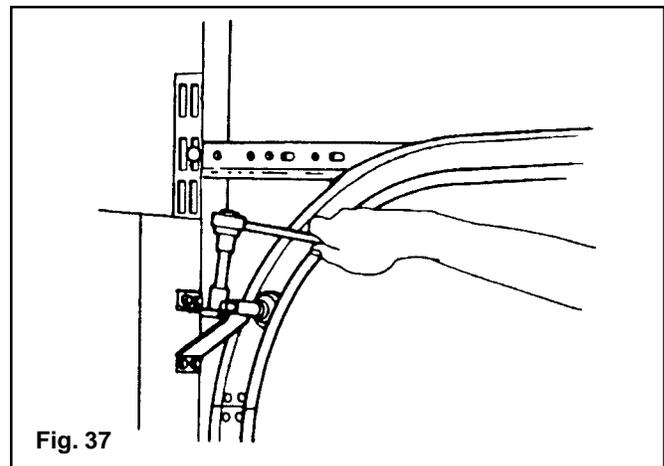

Fig. 37
**Sway braces must be used to prevent tracks from spreading and allowing door to fall. Bolts placed in the end of each track (FIG. 37) must be at least 1" long to prevent the top section from exiting the track.**
**Step 9:** With the track installed, the top door section can now be properly adjusted. With the slide on the top bracket loose, force the top of the door against the stop molding or door jamb. Pull the roller towards you so it is tight against the groove in the track and tighten the slide bolts. (FIG. 37 and 38)